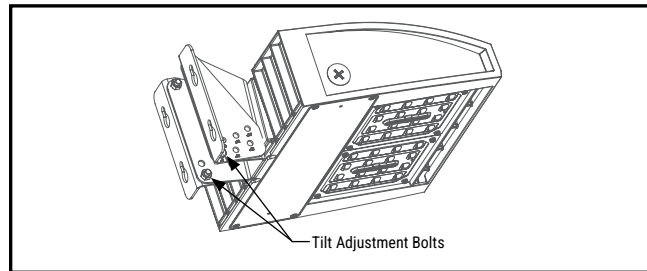

Figure 4.
6. Loosen the 2 angle securing bolts indicated in Figure 4. Retain the hardware.